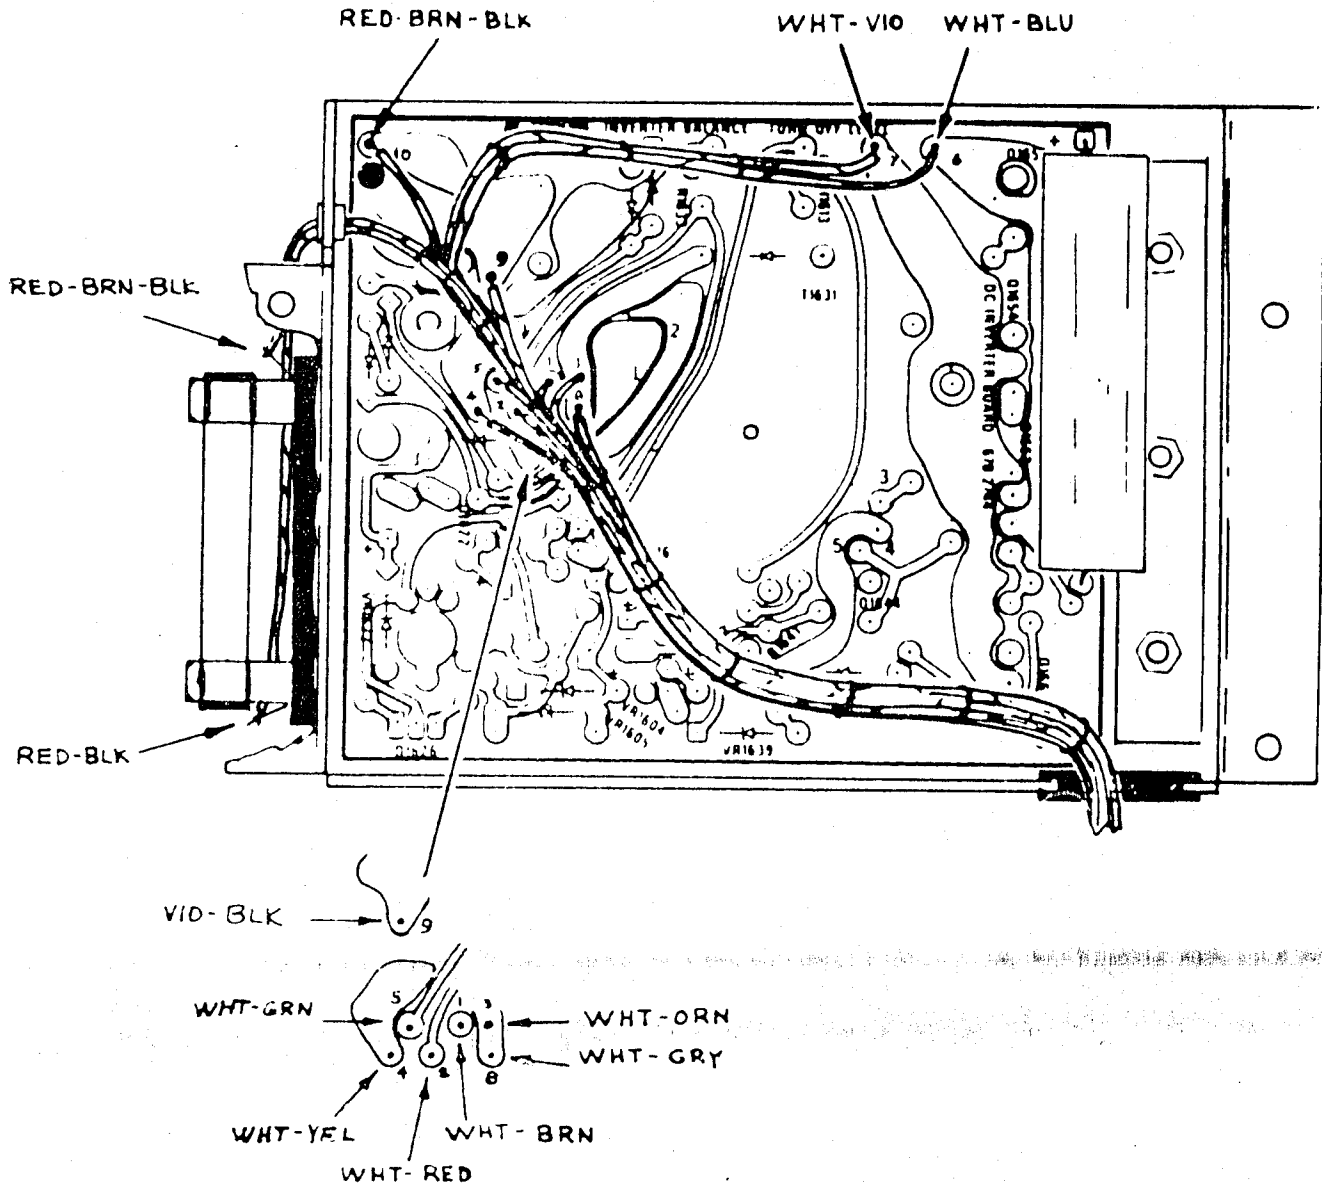

Fig. 6. DC Inverter Assembly.
() Dress the cable across the DC Inverter circuit board as shown in Fig. 6, except run the cable along the bottom edge of the circuit board, then straight up along the left edge.
- () 2. Solder the remaining cable wires to the DC Inverter assembly as shown in Fig. 6.